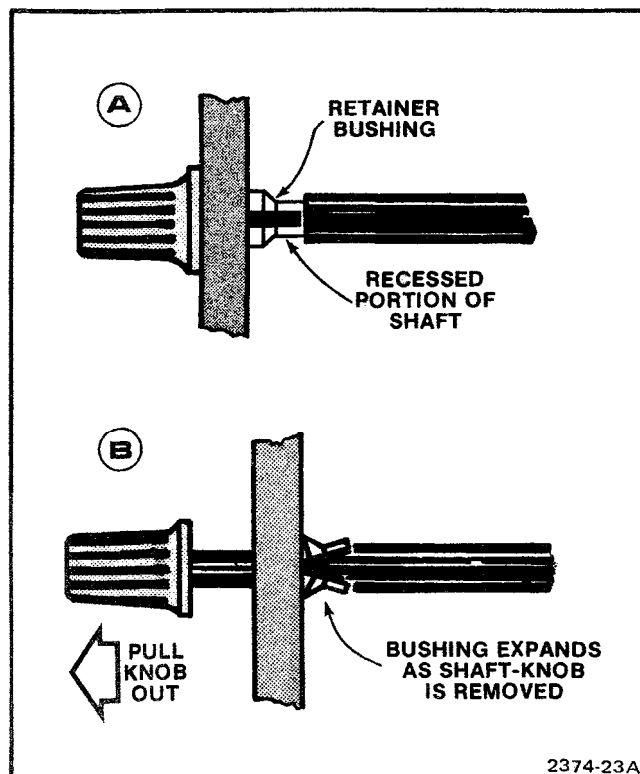

Figure 5-7. Shaft/knob assembly removal.
2. Pull on the knob while pushing on the shaft to free the recessed portion of the shaft from the panel retainer bushing (see Figure 5-7).